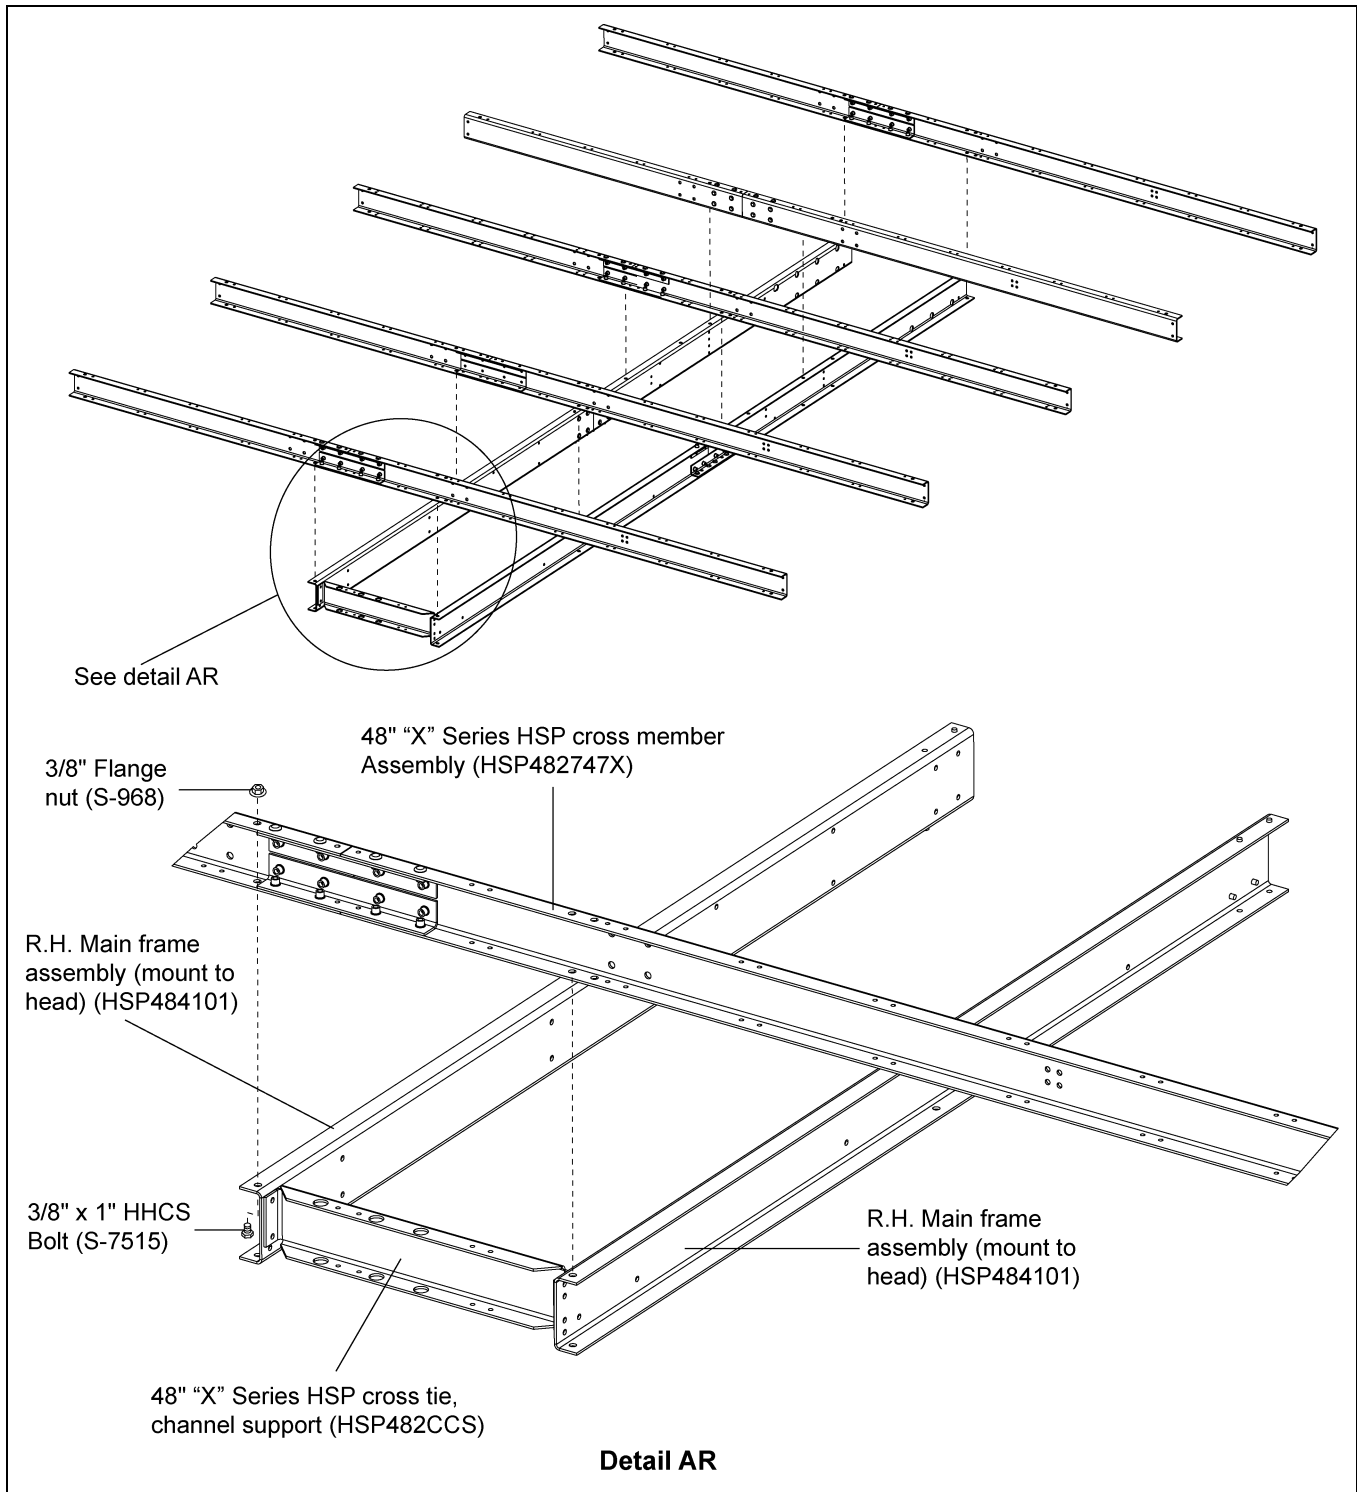
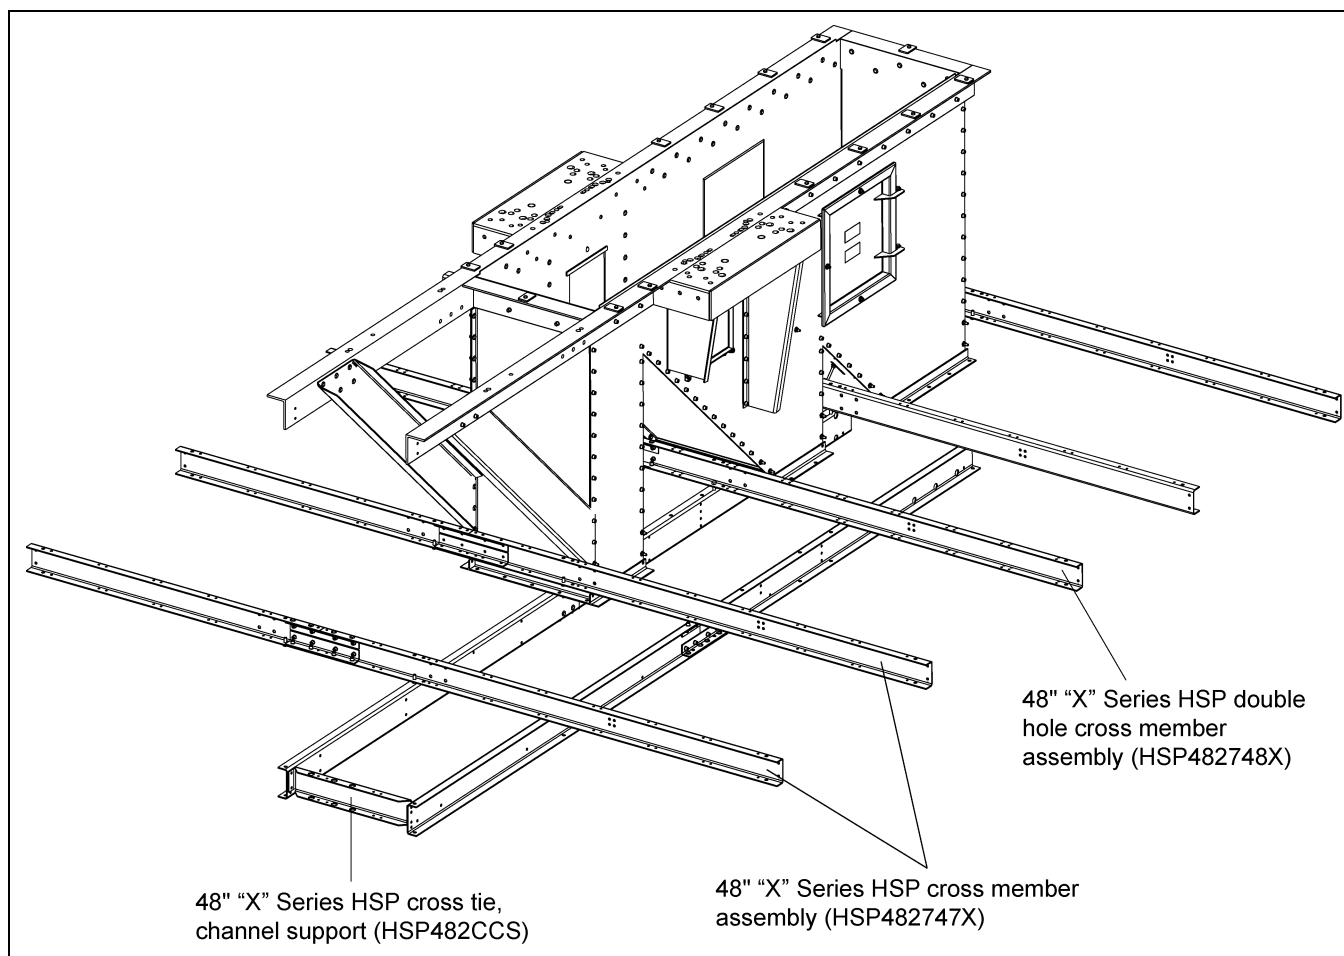

Figure 9C
Figure 9D
3. Attach channel support assemblies (HSP484101) to both sides of the lower head as shown removing bolts where necessary and replacing with 3/8" x 1" HHCS bolts (S-7515) and 3/8" wide flange nuts (S-968). (See Figure 9C below and Figure 9D on Page 74.)